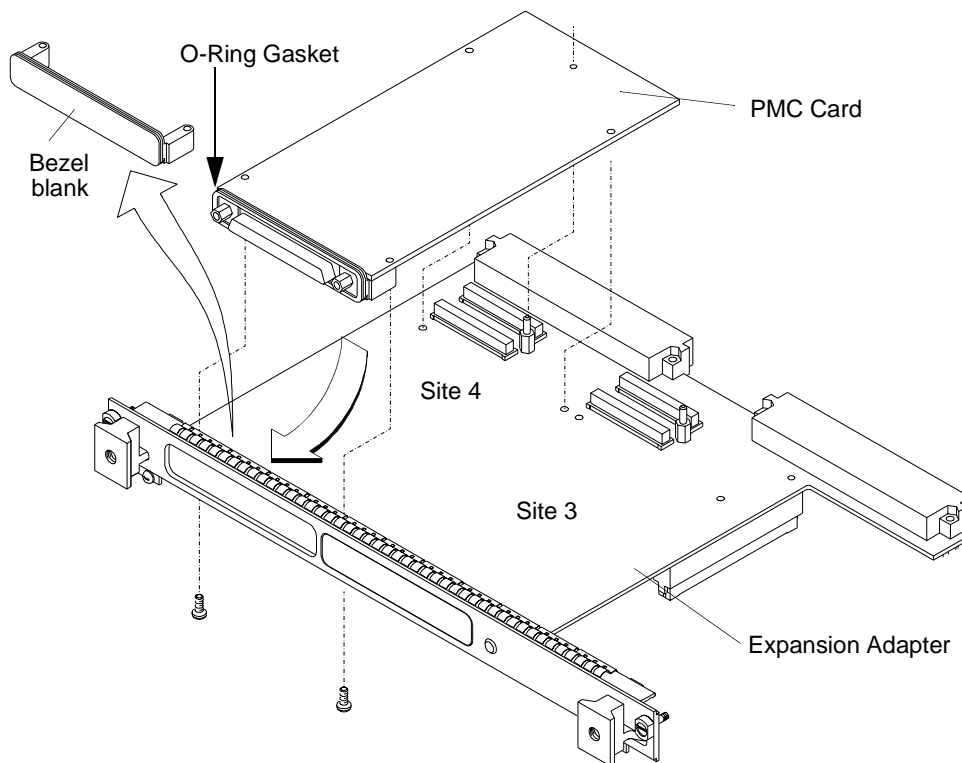

Figure 2-7
- 7 On the PMC expansion adapter, remove the bezel blank(s) from the sites where you will be installing the PMC card(s). See Figure 2-7.
- 8 Install the PMC card(s) onto the expansion adapter by aligning the front of the card with the front bezel, and onto the rear of the card with the connectors and post. See Figure 2-7.